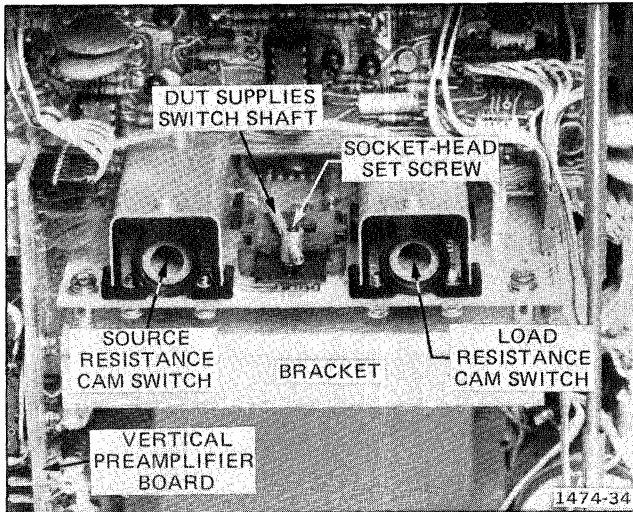

Fig. 4-8. Location of the DUT SUPPLIES switch arm.
g. Loosen the socket-head screw from the DUT SUPPLIES switch arm (see Fig. 4-8).